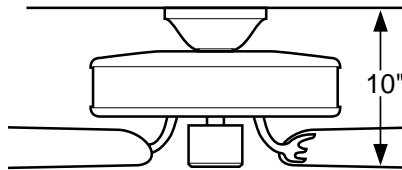

Figure 1a - Flush Mounting
**Flush Mounting** (Figure 1a) fits close to the ceiling, for low ceilings less than 8 feet high.